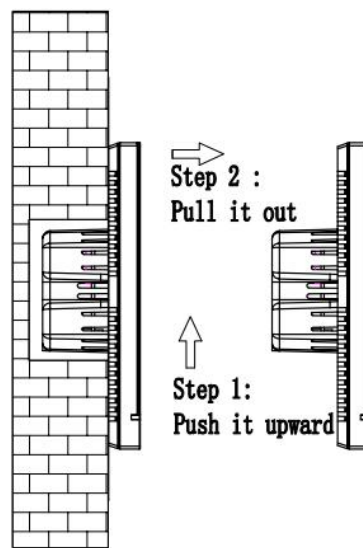

Fig.3.3.1.5
4. **After finishing the installation, if disassembly is required, please perform this step: Push the device upward, then pull it out toward the horizontal direction when hear a buckle sound or when the device can no longer be moved, then the disassembly is finished, as shown in Fig.3.3.1.5.**